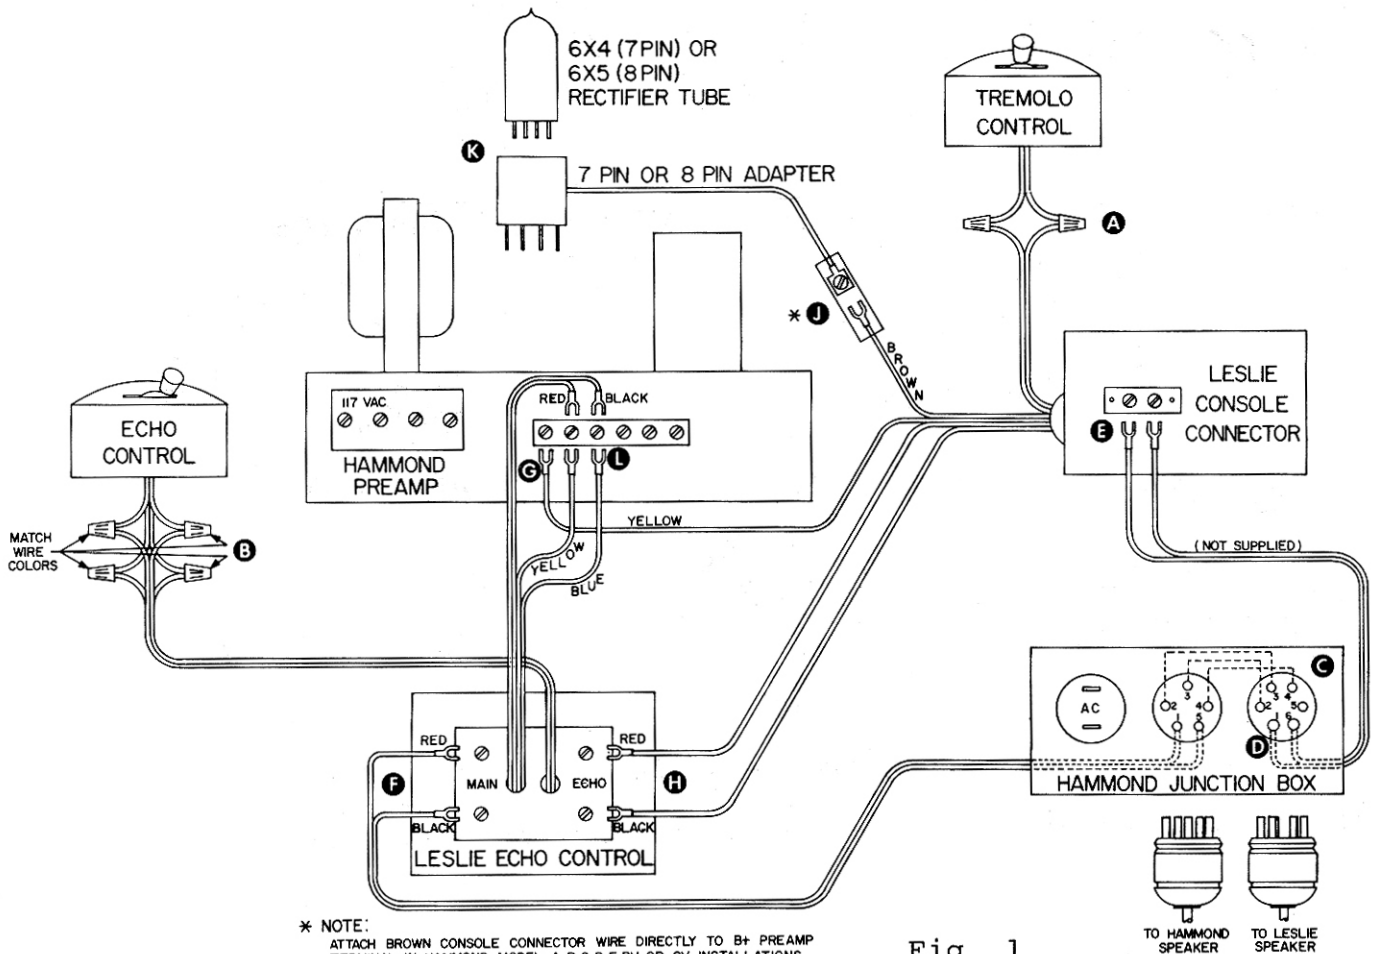

Fig. 1
5. Twist together stripped ends of tremolo control cable and AC type wires from console connector. Secure with two wire nuts provided in hardware package. (See "A" on Fig. 1.)
6. Twist together the stripped ends of matching colored wires from echo switch and echo control chassis. Secure with four wire nuts from hardware package. **MATCH WIRE COLORS** (See "B" on Fig. 1.)
8. Install 6-contact socket from hardware package in one of the vacant cutouts in the Hammond junction box. Secure socket with socket retainer ring provided in hardware package. (See "C" on Fig. 1.)
9. Use jumper wires to connect AC and ground terminals from existing 5-contact Hammond external speaker socket to AC and ground terminals on the newly installed 6-contact socket. Insulate all connections with electrical tape. See Fig. 1 for correct wiring. Don't forget to run jumper wires through cap provided in hardware package before completing connections.
11. Connect ends of two wires (not supplied) to contacts 1 and 6 at rear of 6-contact socket. (See "D" on Fig. 1.)
12. Strip opposite ends 3/8" and crimp two wire lugs from hardware package to them. Attach wires to the two screw terminals on the console connector. (See "E" on Fig. 1.)
13. Detach the red and black wires from "G-G" terminals on Hammond preamp. Attach wires to MAIN terminals on echo control chassis. (See "F" on Fig. 1.) These are the signal wires for the Hammond external speaker, which is now switched on and off by the LESLIE echo control switch.
14. Connect yellow wire from console connector to GND terminal on Hammond preamplifier. (See "G" on Fig. 1.)
15. Connect red and black wires from console connector to ECHO terminals on echo control chassis. (See "H" on Fig. 1.)
- b. HAMMOND B-2, C-2, RT-2 Installations: Attach brown wire from console connector to black wire from 8 pin B+ adapter supplied. (See "J" on Fig. 1.) Cover connection with electrical tape. Remove the 6X5 rectifier tube from its preamp socket. Plug 8 pin adapter into this socket; then plug 6X5 rectifier tube into the adapter. (See "K" on Fig. 1.)
- c. HAMMOND B-3, C-3, RT3 Installations: Attach brown wire from console connector to black wire of the 7 pin miniature B+ adapter supplied. (See "J" on Fig. 1.) Insulate connection with electrical tape. Remove the 6X4 rectifier tube from its preamp socket. Plug 7 pin adapter into this socket; then plug 6x4 rectifier tube into the adapter. (See "K" on Fig. 1.)
17. Attach red, black, yellow, and blue wires from echo control chassis to "G-G" terminals on Hammond preamplifier. (See "L" on Fig. 1.)
18. Connect speaker cables to the external speakers and the Hammond junction box. (See "M" on Fig. 1.)